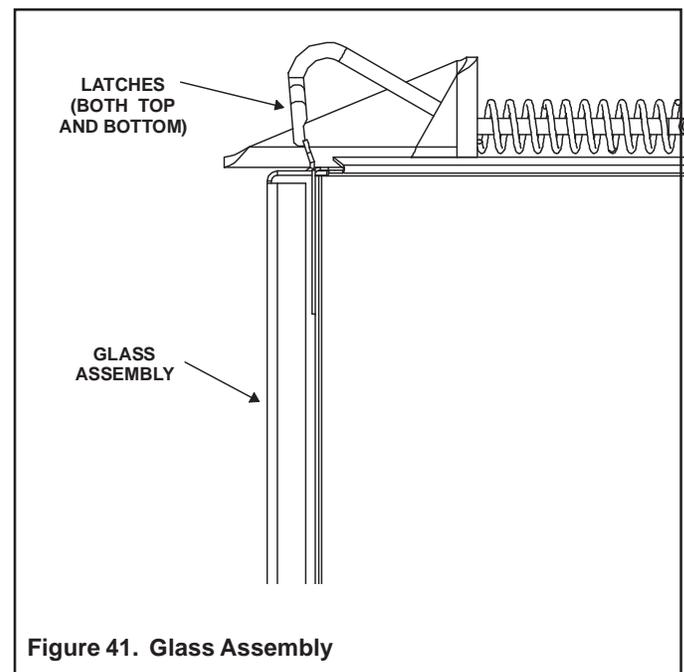

Figure 41. Glass Assembly
- Remove the glass door from the unit (see Figure 41).